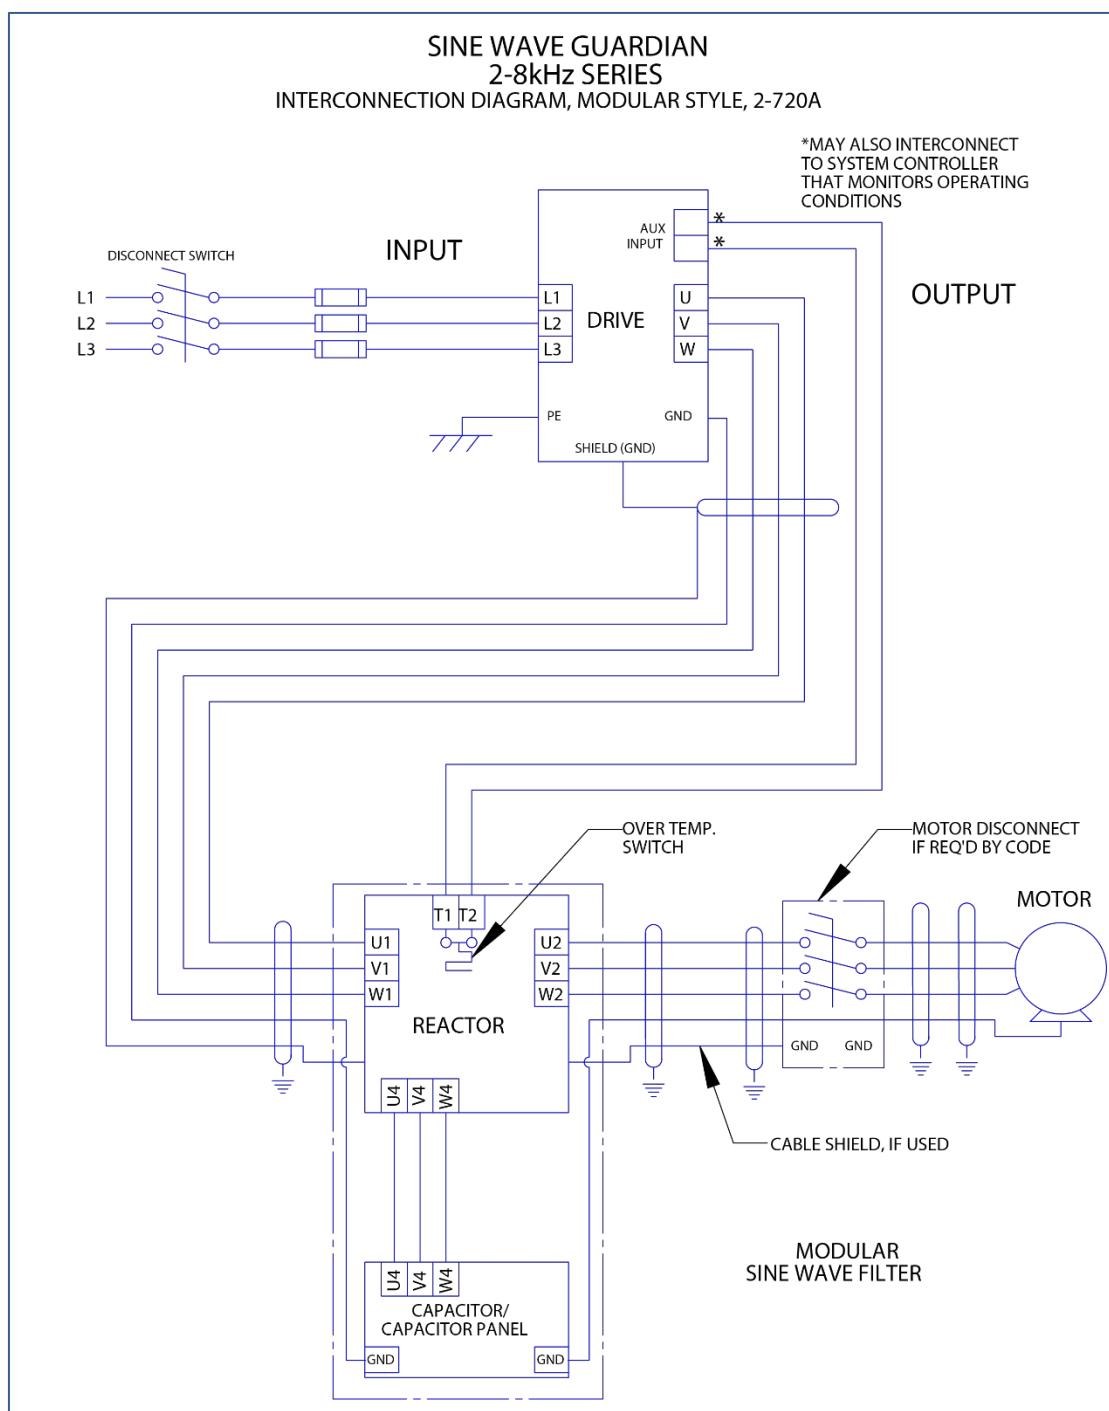

Figure 5-1: Modular Interconnection
- For modular filter applications, interconnection between the filter, its power source, the cap-pans, and the drive is shown in Figure 5-1: Modular Interconnection (p27).